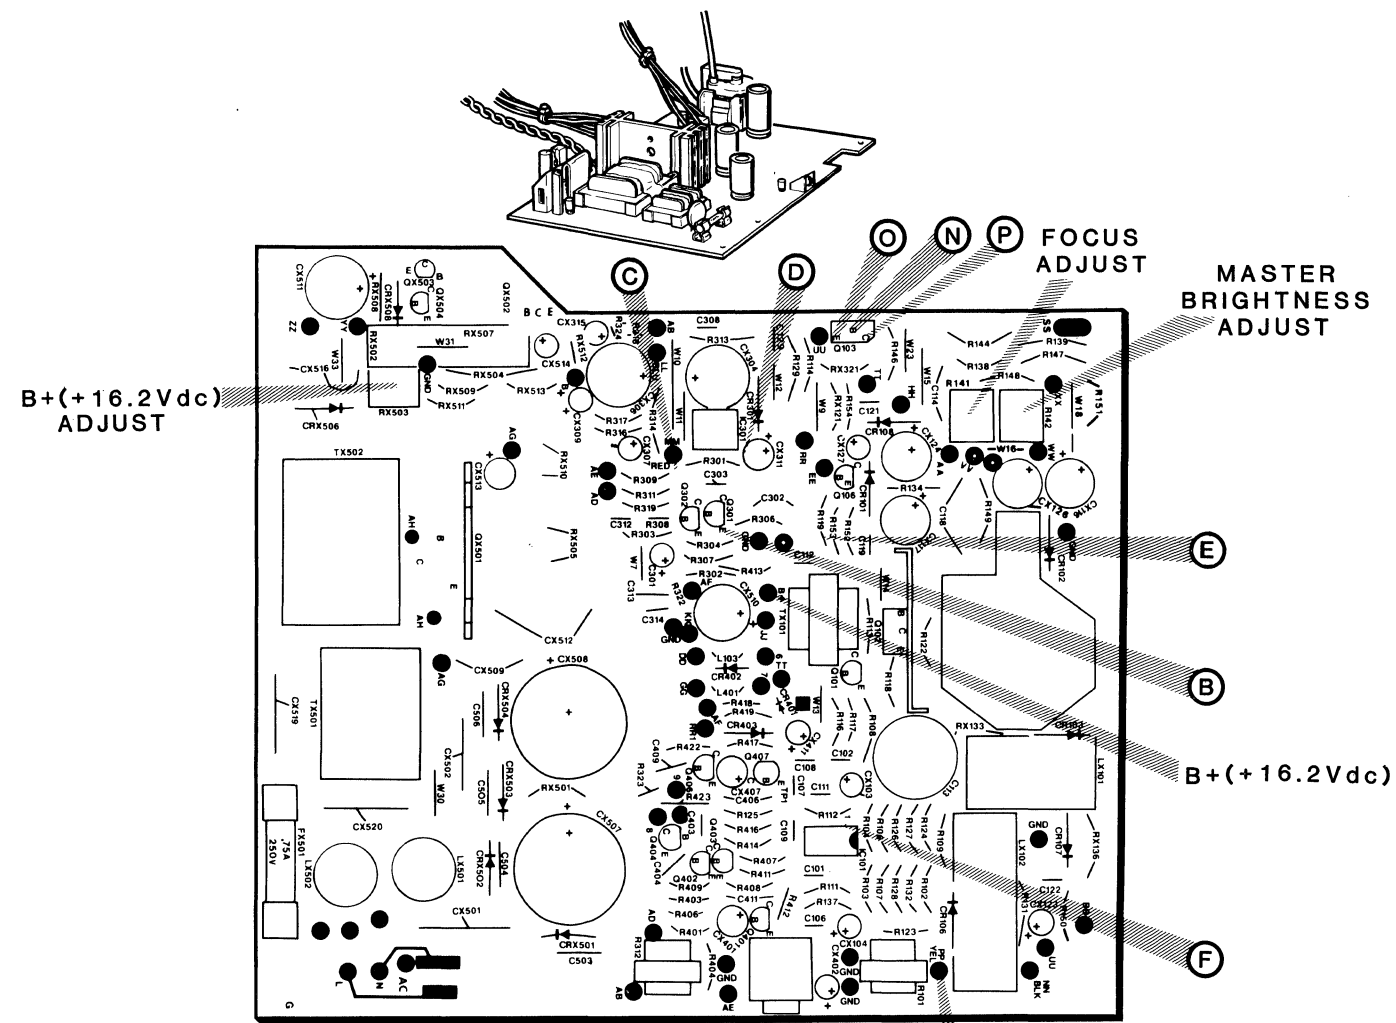

Figure 4
3. Locate the B + adjustment, RX503 (See Figure 4).
3. Locate the focus adjustment, R141 (See Figure 4).